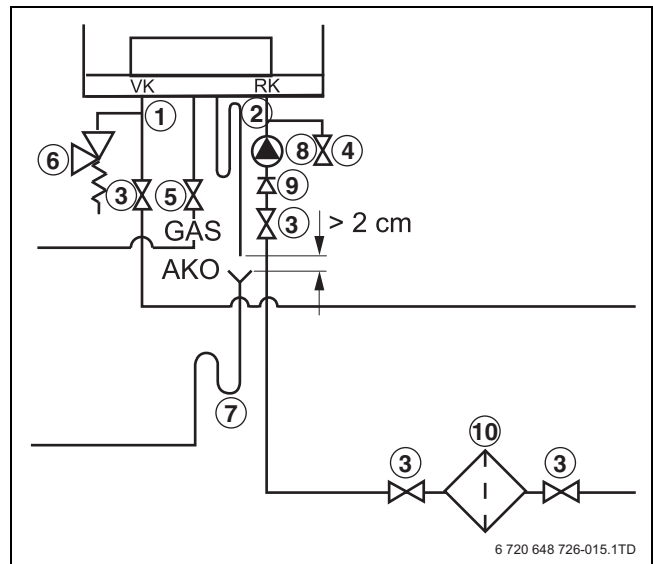

Fig. 15 Connecting the boiler flow and return
- ▶ Install a isolating valve for maintenance and repair purposes in both the boiler flow and return circuits (→ fig. 15, [3]). Use isolating valves with a minimum diameter of 1½".
- ▶ Connect a drain cock in the return circuit (→ fig. 15, [4]).
- ▶ Install a 4-bar pressure relief valve (→ fig. 15, [6]) with a minimum passage of 22 mm in the flow circuit. Make sure that the pressure relief valve is always installed between the boiler and the isolating valve, so that the boiler will always be in contact with the pressure relief valve, even if the isolating valves are closed.
- ▶ Install the pump (→ fig. 15, [8]) in the return circuit (→ fig. 15, [2]).